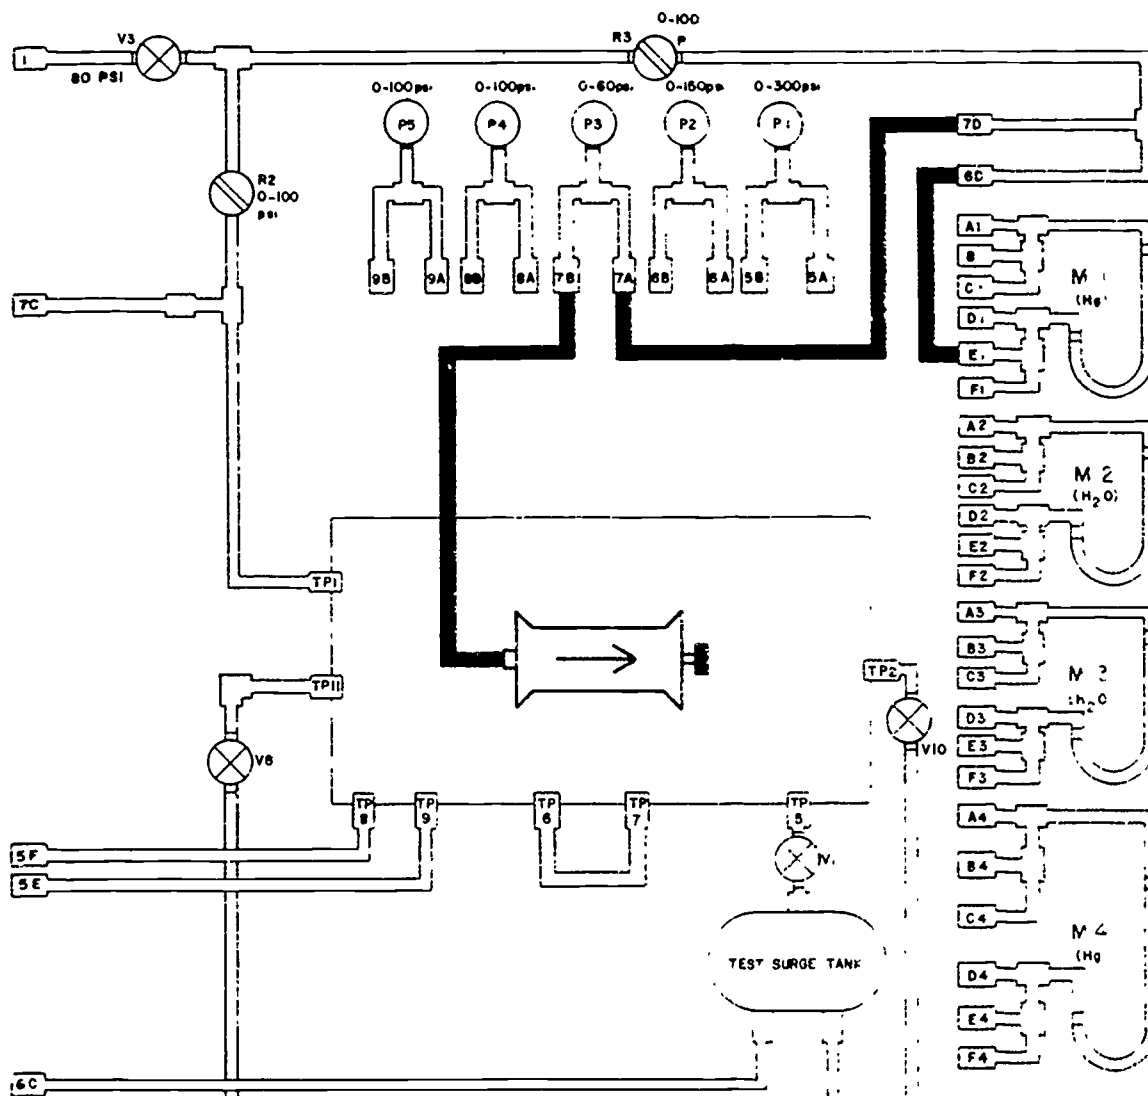

Figure 5. Pneumatic Valve Test Setup.
(1) Using figure 5, hook each pneumatic hose (heavy dark lines) to the valve and the trainer. M-1 manometer scale should be set to read zero on the inches of mercury scale.
(2) Place switch S-1 to ON.
(3) Open valve V-3.
(4) Slowly build pressure by turning regulator R-3 clockwise until the valve indicator shows closed. This should happen as soon as pressure is applied. If not, your hookup must be wrong.
(5) Once the valve is closed, reduce the pressure by turning regulator R-3 counterclockwise until manometer M-1 shows zero.
(6) Place switch S-2 to position 3.